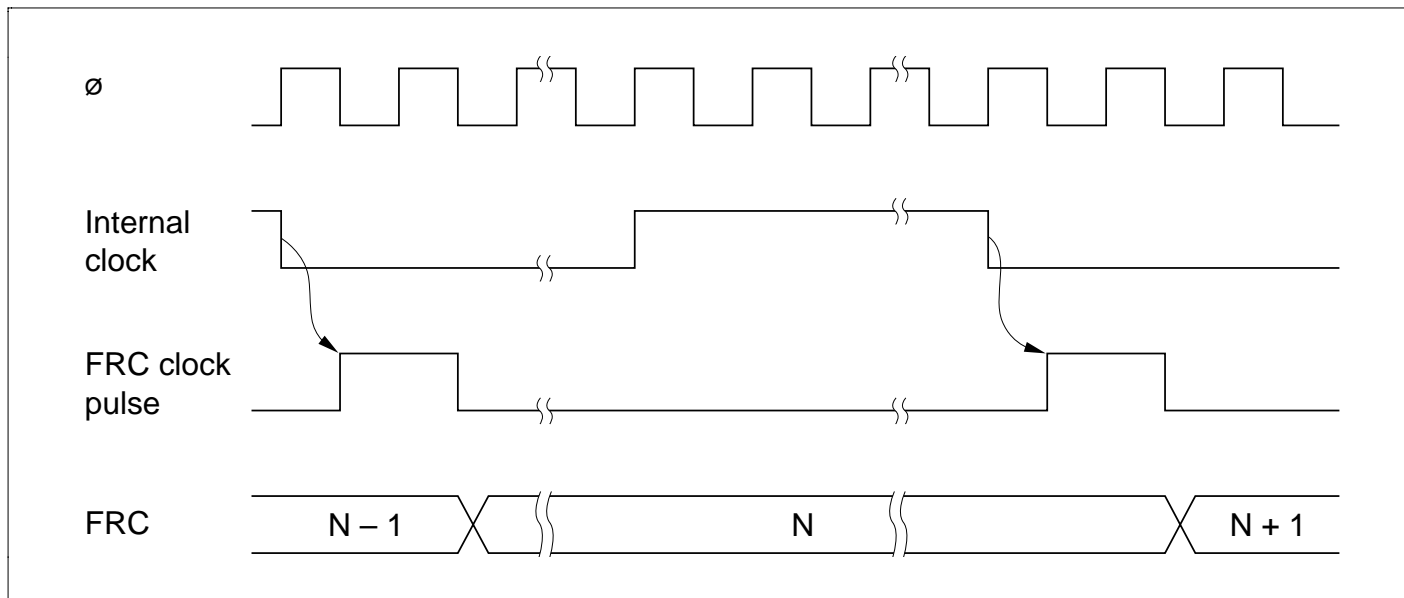

Figure 9-3 Increment Timing for Internal Clock Source
(1) Internal Clock Sources: Can be selected by the CKS1 and CKS0 bits in TCR. Internal clock sources are created by dividing the system clock (ϕ). Three internal clock sources are available: $\phi_P/2$, $\phi_P/8$, and $\phi_P/32$. Figure 9-3 shows the increment timing.